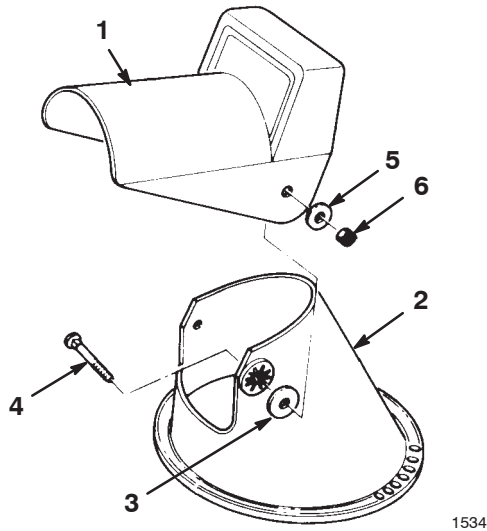

Figure 5
1. Position the chute deflector onto the discharge chute and align the mounting holes (Fig. 5).
2. Insert a rubber washer between the chute deflector and the discharge chute on each side while maintaining the hole alignment (Fig. 5).
Note: Ensure that the square shoulders on the carriage bolts align with the inside square on the discharge chute. Position the metal washers to the outside of the chute deflector as shown in Figure 5. **Do not overtighten the bolts.**